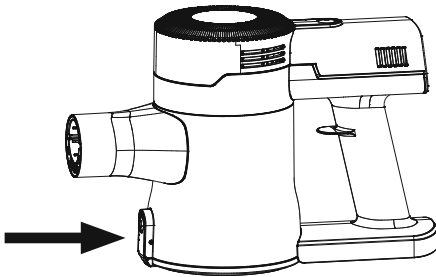

Fig. 5
1) Turn the appliance off. Press the dust container release button (8) to open the dust container cover (7) (see Fig. 5).